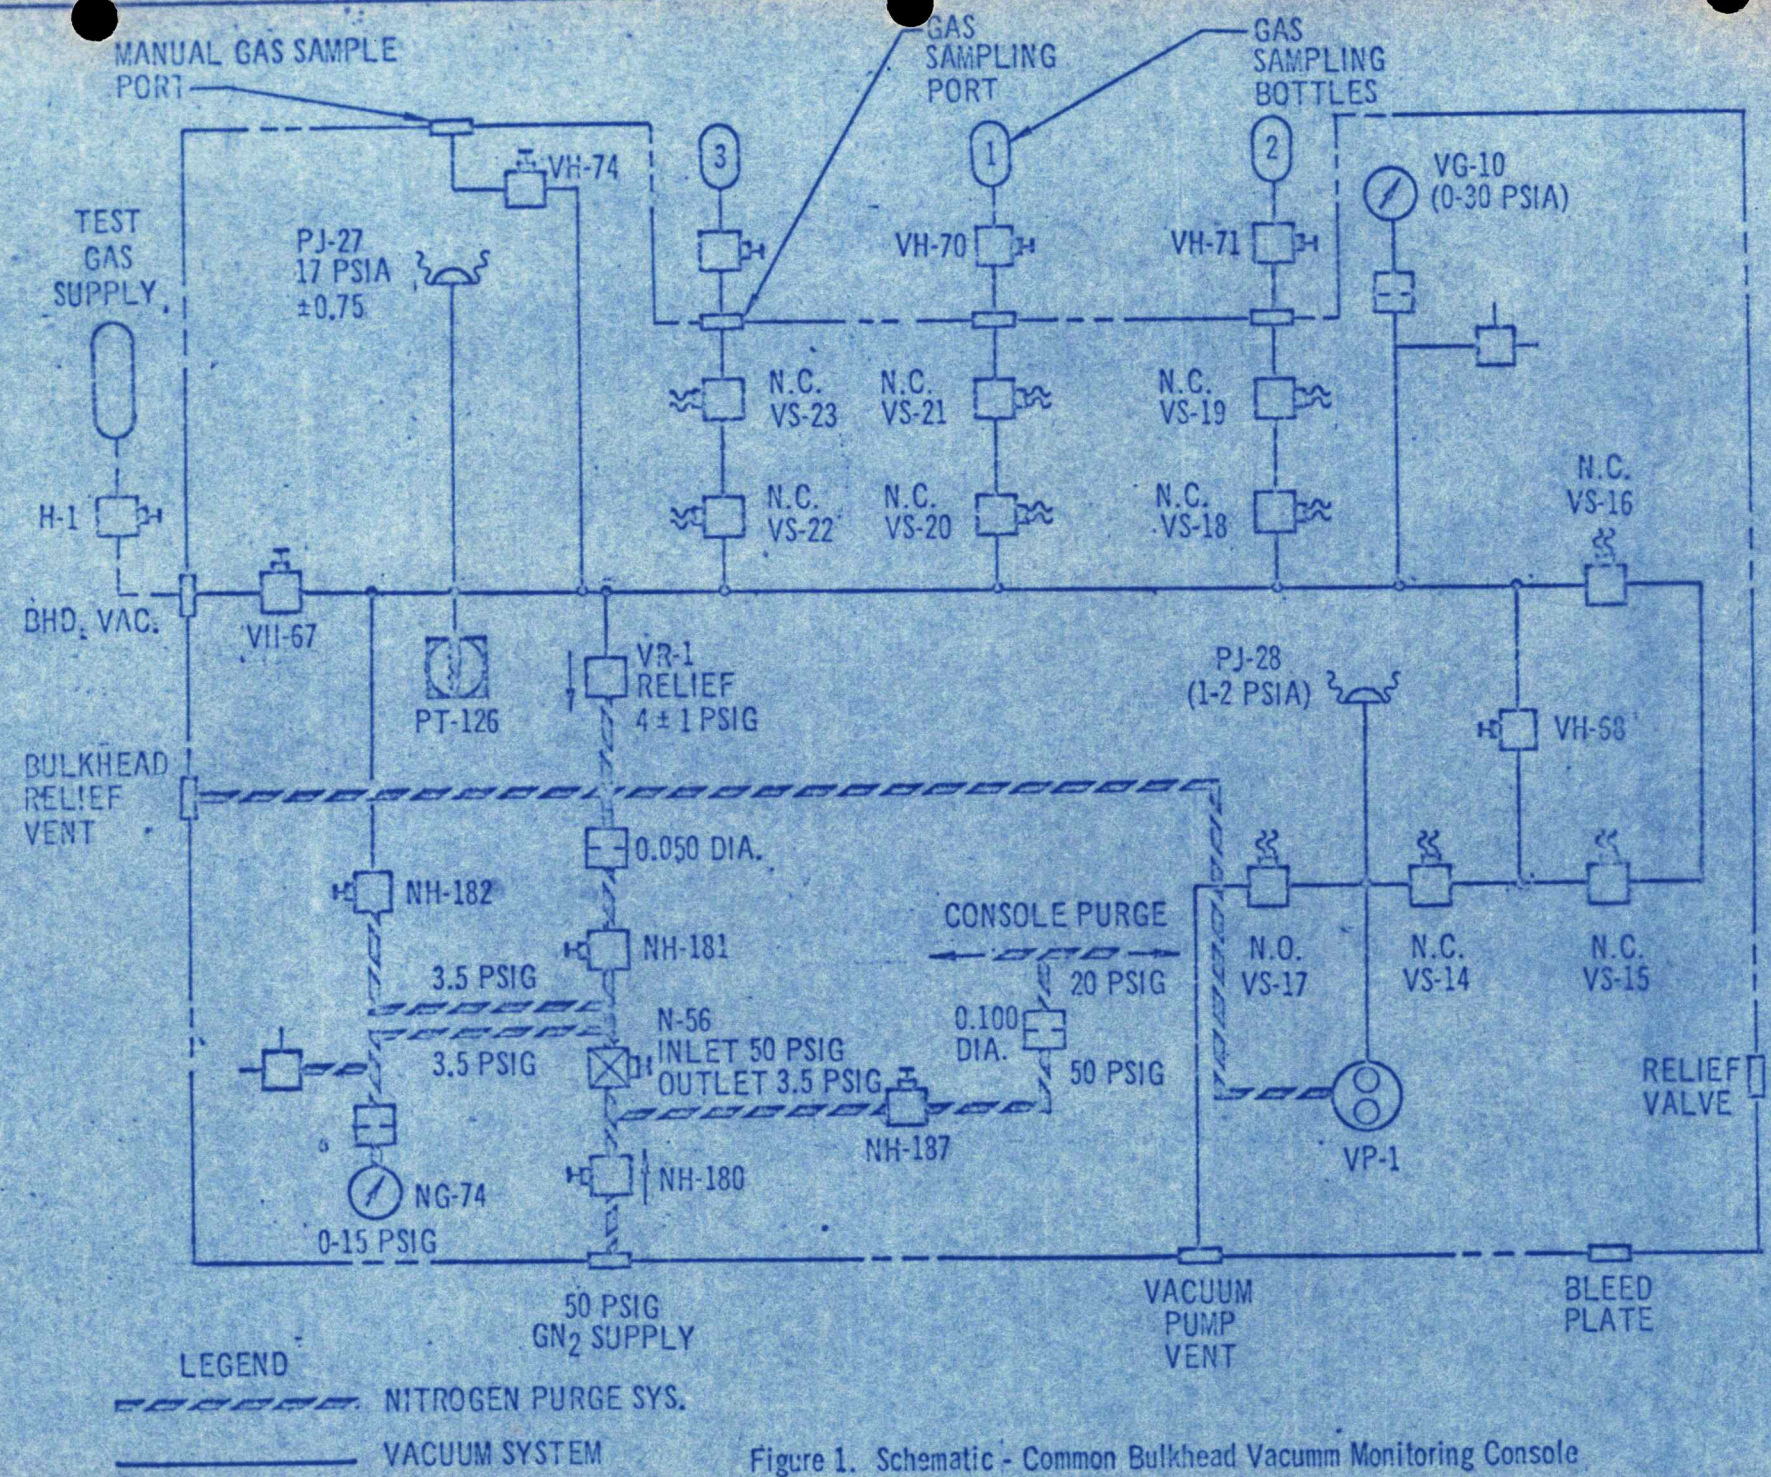

Figure 1. Schematic - Common Bulkhead Vacuum Monitoring Console
2. FIGURE 1, SCHEMATIC-COMMON BULKHEAD VACUUM MONITORING CONSOLE